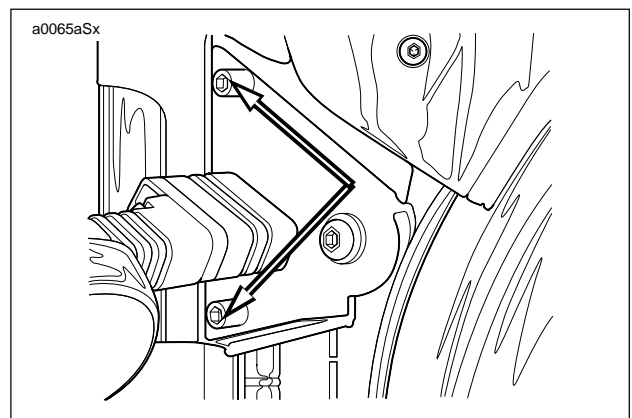

Figure 2-98. Tighten Headlamp Bracket Screws
- d. See Figure 2-98. Tighten headlamp brackets flush against bottom of top triple clamp.